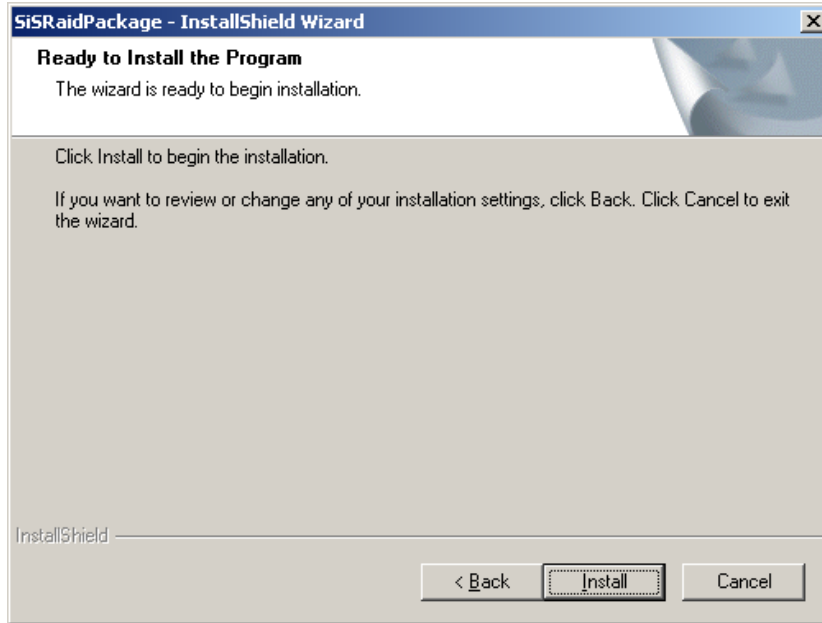

**Figure 6-31: Select Needed Components**
- Step 10:** The **Select Needed Components** window appears (**Figure 6-31**).